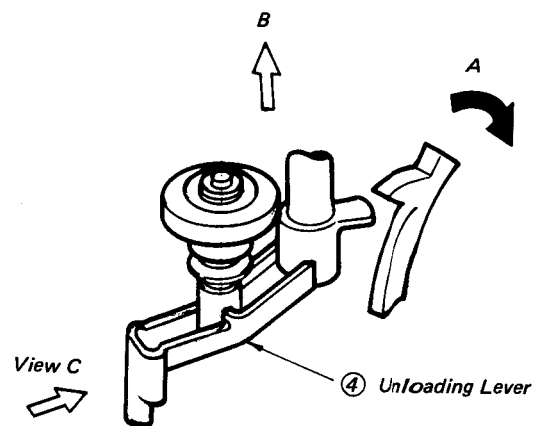

Fig. 5-41 Unloading Lever Detaching
4. Also, while pushing the reel chassis retainer pawl ② in the direction A (→) as if to bend, lift the unloading lever ④ in the upward direction B (↑) to position as in Fig. 5-41.